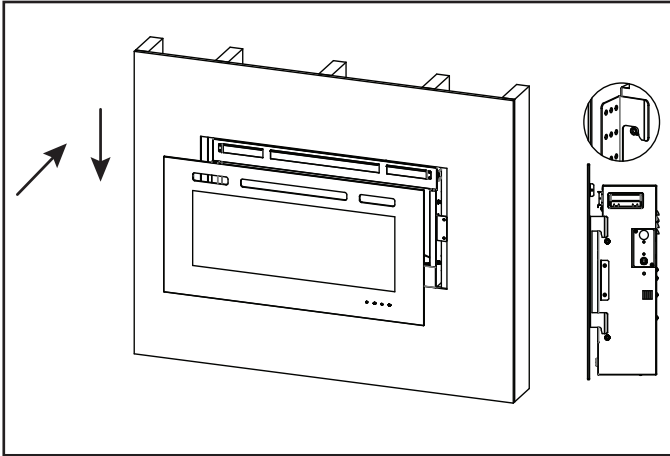

Figure 6. Glass Front Removal/Installation
6. Install front panel. Locate the J-hooks on the back side of the glass on the four shoulder bolts on the appliance opening. Engage the shoulder bolts. See Figure 6.